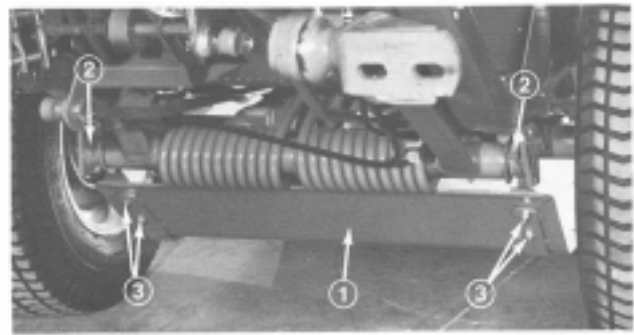

Figure 7
5. Secure the belly shield to the belly shield hooks with 2 locknuts (5/16 in.) on each side (Fig. 7).